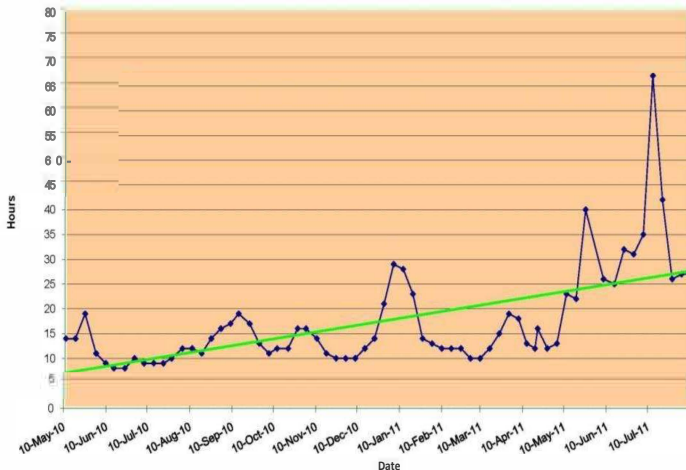

Figure 3: Mean time between failure (MTBF) example - 900 electric motors (compliments of Kim Hunt - Domtar)
8. Since people's memories are very short, post the results that you achieve by the equipment, and make sure that they are updated daily by your production partner. One of the best items to display is mean time between failure (MTBF) of specific "best actor" assets. Put this by the equipment on a weekly basis, as shown in Figure 3.